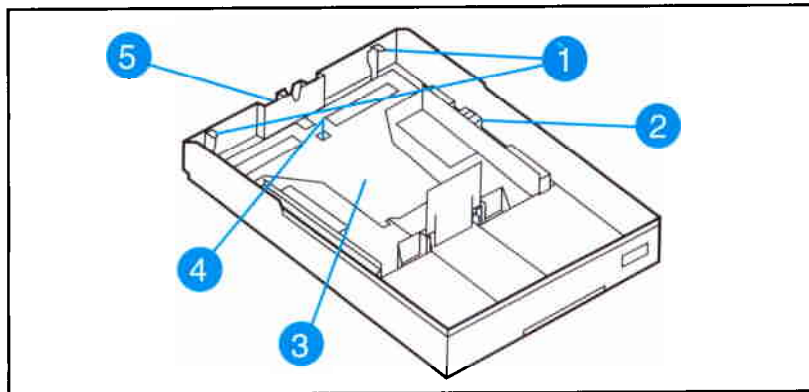

Figure 7-17 Paper Tray Components
- Check the paper stack tabs in the paper tray (see Figure 7-17).